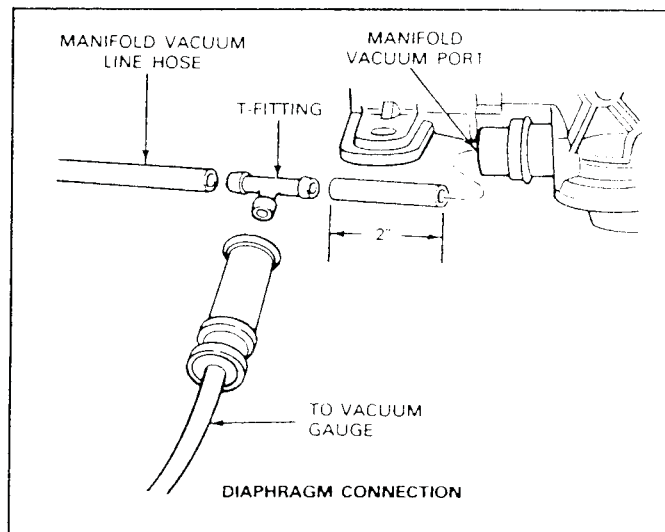

FIG. 5 Typical Vacuum Test Line Connections
1. Attach a tachometer to the engine and a vacuum gauge, Rotunda Number 059-00008, or equivalent to the transmission vacuum line at the manifold vacuum port (Fig. 5).